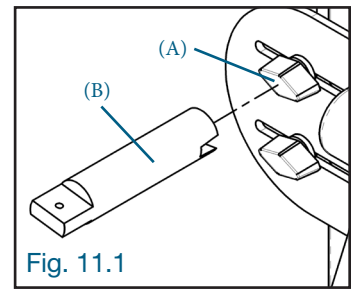

Fig. 11.1
11.1 PROCÉDURES D'AJUSTEMENT (fig. 11.1)